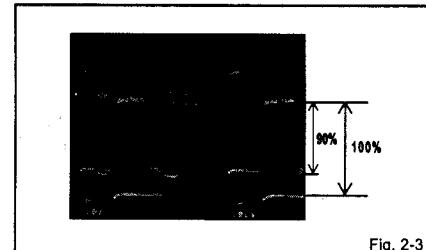

Fig. 2-3
6. Press the VOL. UP/DOWN button on the remote control until the red color level is adjusted to  $90 \pm 5\%$  of the white level. (Refer to Fig. 2-3)